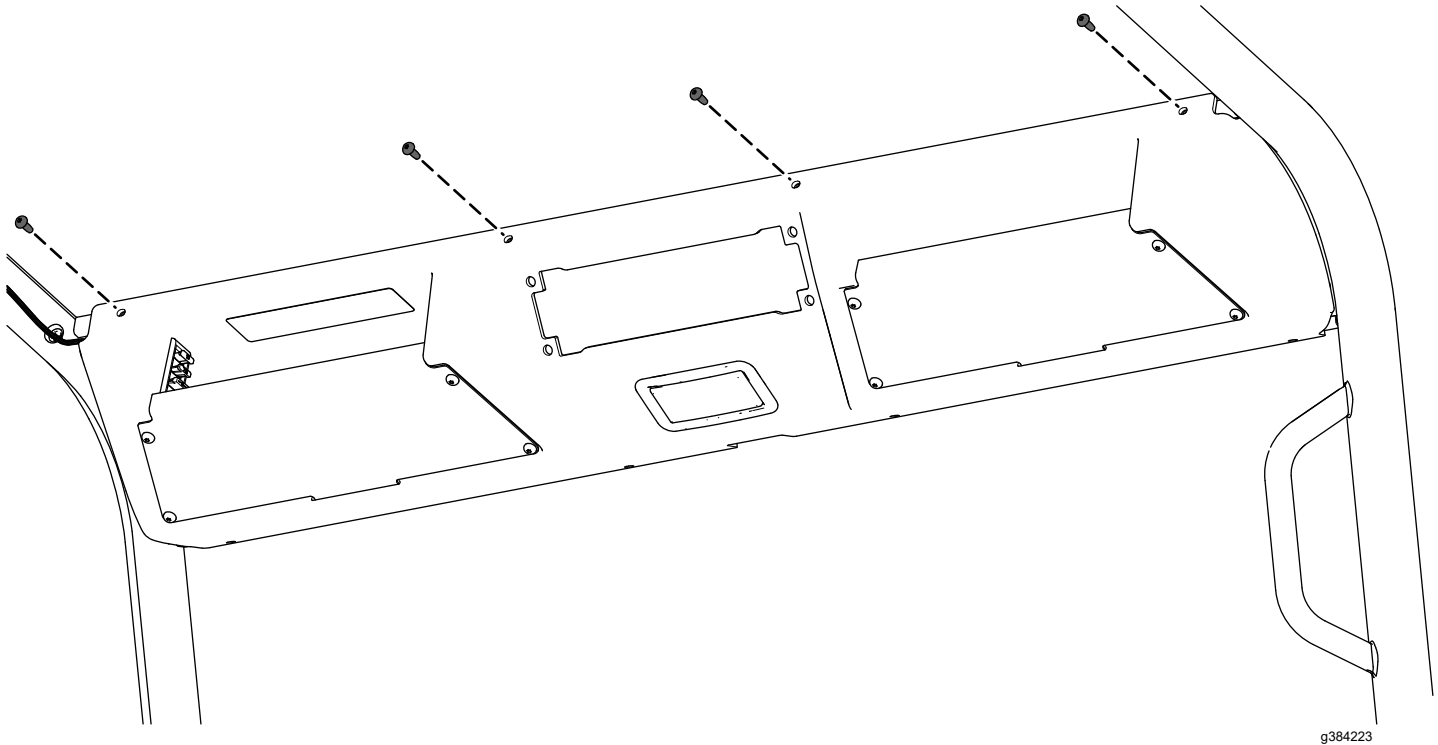

**Figure 5**
1. Route the 3-pin connector and harness through the opening of the overhead console before installing the overhead console (Figure 5).